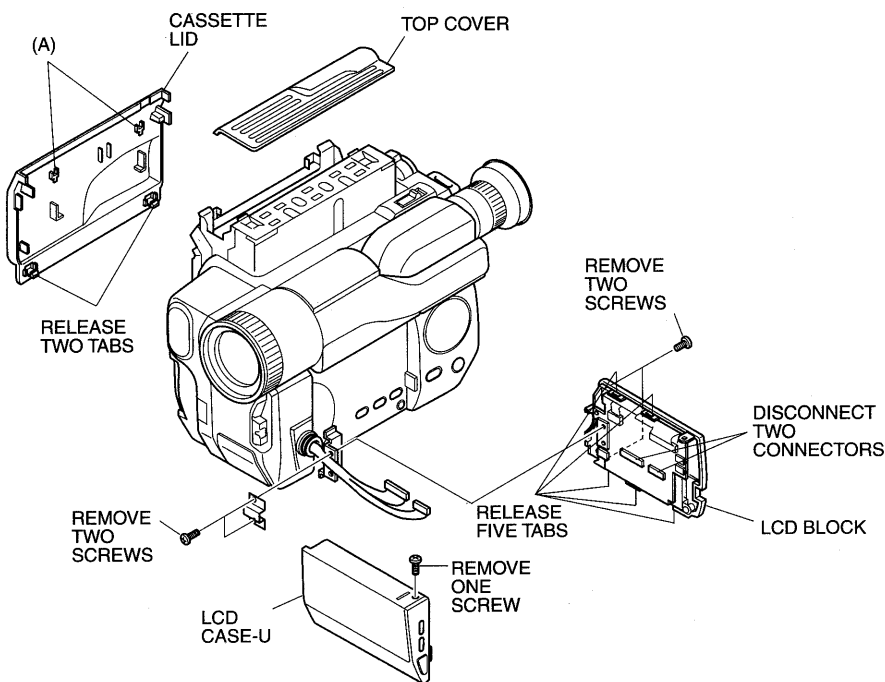

Fig. 2-3-1 [Except for TYPE 660, 368, 360]
2.3 LCD Case-U [Except for TYPE 660, 368, 360], LCD Block [Except for TYPE 660, 368, 360], Cassette Lid, Top Cover (Figs. 2-3-1, 2-3-2, 2-3-3)